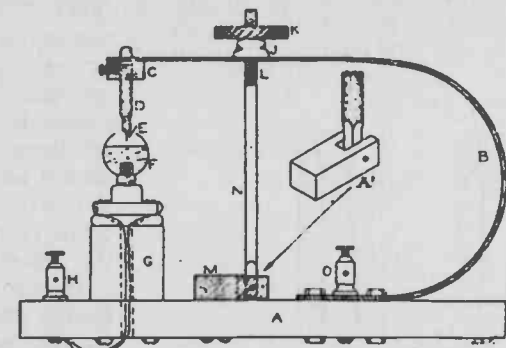

FIG. 3.
Of the various kinds of auto-coherers and methods of adjusting the same, the one represented by Fig. 3 has been proved to be the most reliable by the United States navy, and is now in use in most of, if not all, its land stations.
At a convenient distance between the base (G) and the binding post (O), some form of anchorage is located for the adjusting rod (N). (A' of Fig. 3 is an isometric projection of one simple form.) Directly above (M) is a hole, drilled in (B) with a hollow bushing (J) soldered over it. The brass rod (N) is 1/8" in diameter and 8" long, with a fine thread on the upper end. The brass wheel (K) is at least 1 1/2" in diameter and is threaded so as to revolve easily around the rod (N) on the thread.